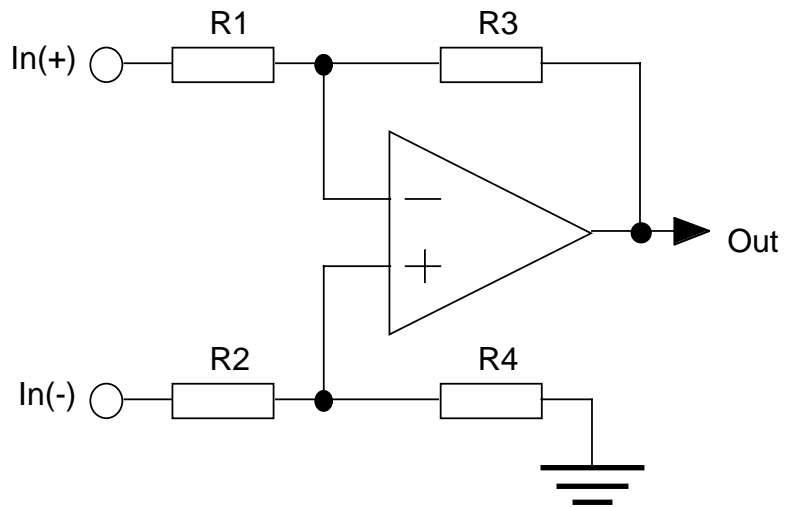

Figure Q2a)
- Q2. (a) Figure Q2a) shows the circuit diagram of an amplifier. Derive an expression for the output as a function of input assuming that  $R_1 = R_2$  and  $R_3 \approx R_4$  such that  $R_3 = R_4 + \Delta$ , where  $\Delta$  is small relative to  $R_3, 4$ . [6]
- (f) If the resistors in figure Q2a) have a tolerance of 1%, what is the minimum gain which can be used to meet the CMRR specification? [3]